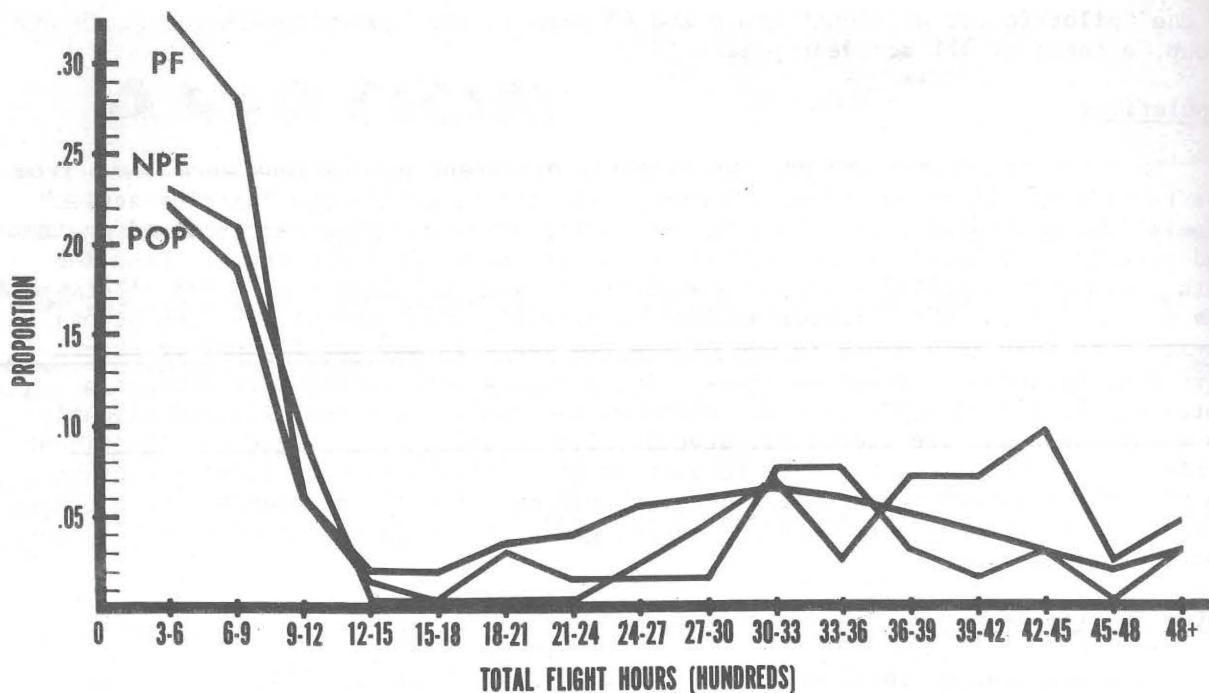

Figure 1
As Figure 1 shows, this assumption is supported by comparison of the pilot factor accident group (PF) to the carrier-active population (POP). Aviators with 300-600 hours and 600-900 hours have about 50 percent more than their expected pilot-factor accidents. This period of 300-900 hours would usually cover the first two years of an aviator's carrier-based tour. It has often been suggested that another dangerous time for an aviator is the 1000-1500 hour period, about the third year of flying, during which, it is held, his confidence may be greater than his ability. As Figure 1 shows, however, quite the converse is true. Past 900 hours, the pilot factor accident curve drops sharply and stays below the exposure curve until around 3000 total hours is reached.
Also of interest in Figure 1 are findings on the relative risks of non-pilot-factor accidents (NPF). The risk of such accidents follows the same trends as do pilot-factor mishaps up to the 3000 hour level. Past that point, however, there is a tendency for a decrease in pilot-factor accidents within a level to be associated with a corresponding increase in non-pilot-factor accidents. This phenomenon is most clearly seen in the 3600-4200 hour range, in which pilots have two to three times the expected number of non-pilot-factor accidents. Two possible explanations for this excess of non-pilot factor accidents in more seasoned aviators can be advanced. The first, and more obvious, is the possible reluctance to perceive pilot error in a senior pilot, given the same mistake for which a pilot-error tag would be almost automatic for a more junior man. This charitable tendency would explain the increases in one accident type associated with decreases in the other. An alternative explanation is that senior aviators tend to fly the older or more poorly maintained aircraft on the assumption that they are better able to handle potential malfunctions than are beginning pilots. This hypothesis, however, is not consistent with the excess of non-pilot-factor accidents by junior pilots in the 300-900 hour range.
The surplus of pilot-factor accidents in the first two years of flying corresponds to that seen for the 300-900 hour range in Figure 1. Note the sharp drop in relative risk in the third year of designation and the total absence of any accidents at all in the fourth, fifth and sixth years. Pilots in these years